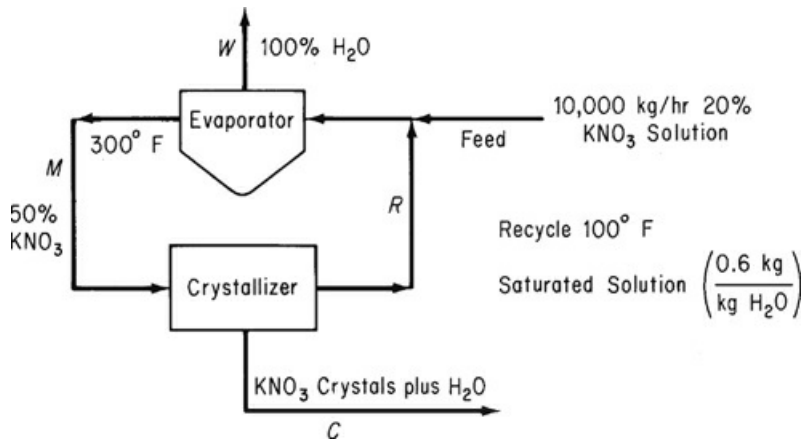

Figure P5.3.7
****5.3.7** Examine Figure P5.3.7. What is the quantity of the recycle stream in kilograms per hour? In stream C, the composition is 4% water and 96% KNO₃.